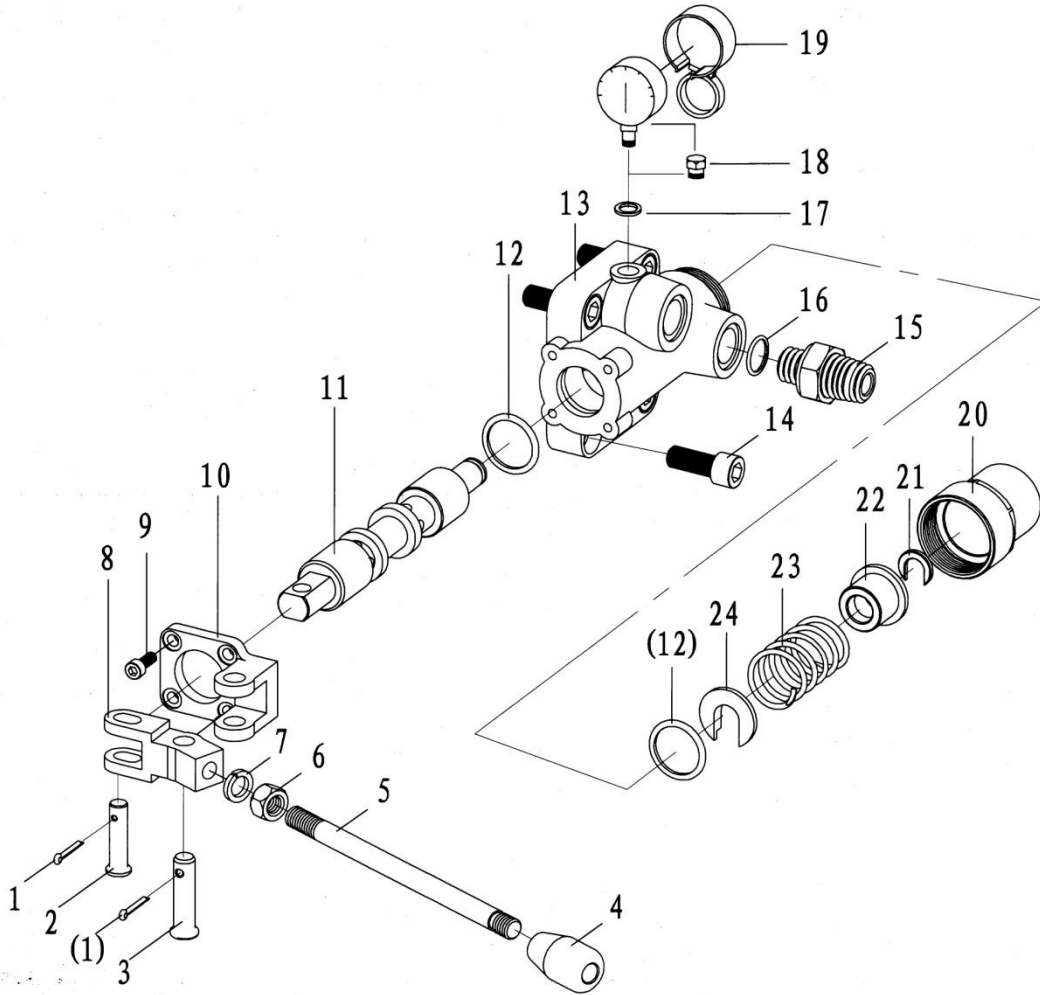

Fig 16
9.12 Hand control valve and parts list(Fig.16,Table12)